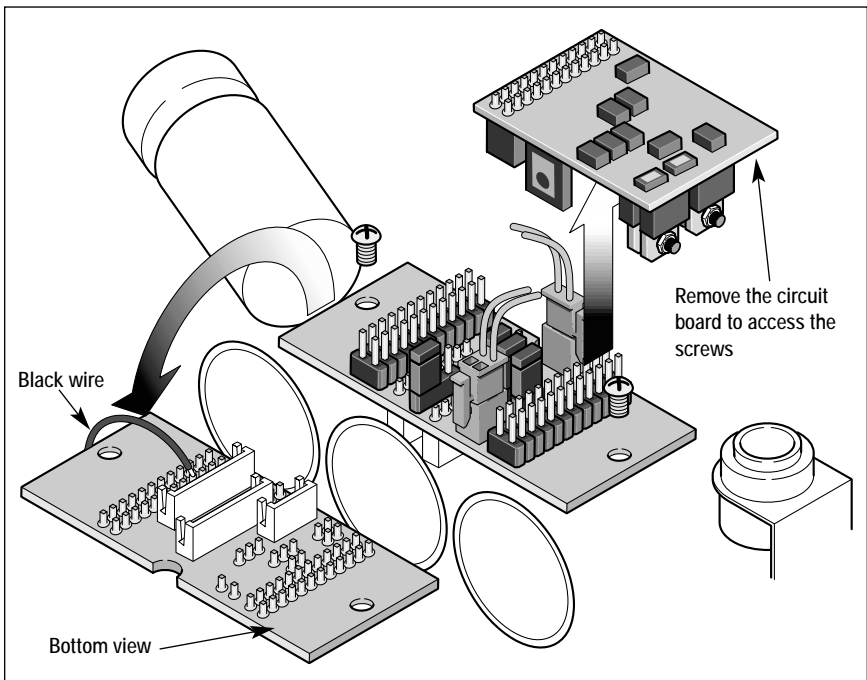

Figure 5. Unsolder black wire
3. Locate and unsolder the black wire attached to the bottom of the motherboard. Refer to Figure 5 for the location of this wire.